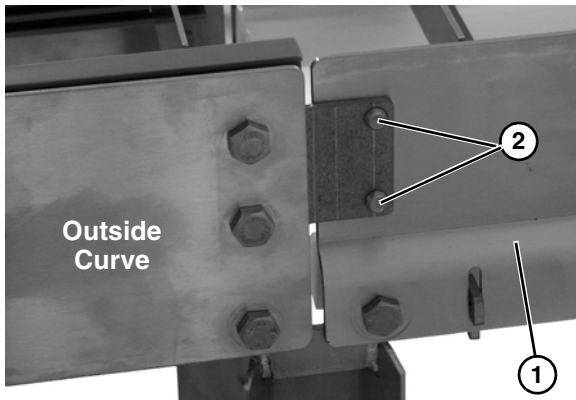

Figure 17
- Secure straight section (**Figure 17, item 1**) onto curved section with two hex head bolts (**Figure 17, item 2**) with bolt heads to the inside as shown.